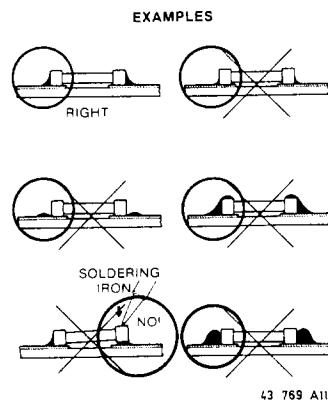

Fig. 5
- The quantity of solder must be proportional with the size of the solder land. If the quantity is too great, the SMD might crack or the solder lands might be torn loose from the printed board (see Fig. 5).